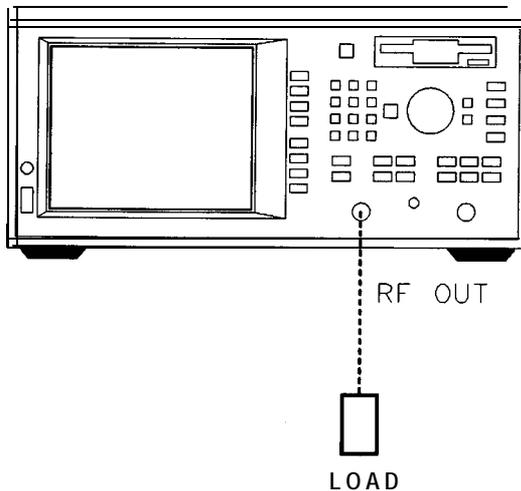

Figure 2-9. Connect the load
4. Disconnect the cable and connect a known good load to the RF OUT port as shown in Figure 2-9.